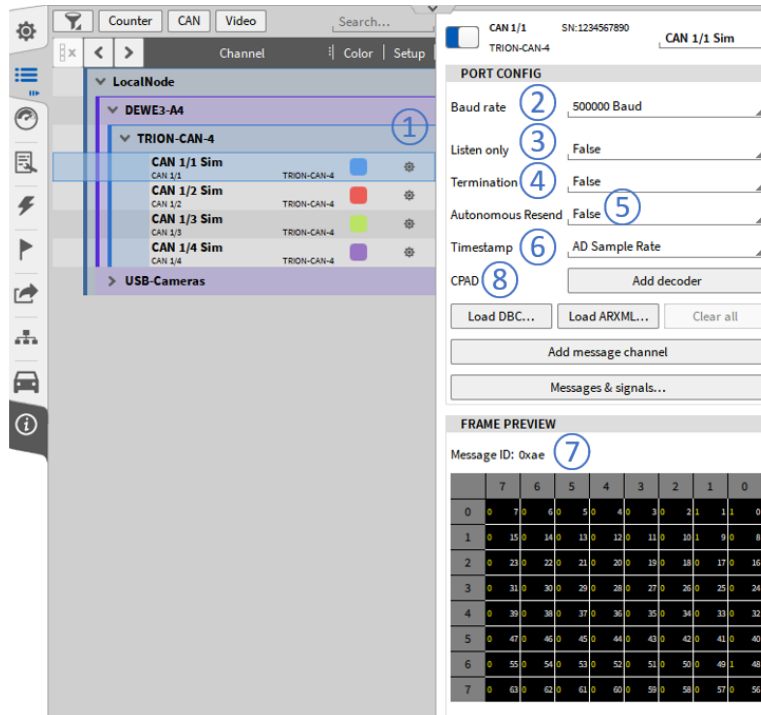

Fig. 7.196: CAN port configuration
To configure the CAN port properly, go to the Channel List and open the CAN port configuration of the dedicated CAN port by pressing the Gear button (see ① in Fig. 7.196).
- Baud rate (see ② in Fig. 7.196):
- Listen only (see ③ in Fig. 7.196):
- Termination (see ④ in Fig. 7.196):
- Autonomous Resend (see ⑤ in Fig. 7.196):
- Timestamp (see ⑥ in Fig. 7.196): Sets the time base on which the CAN signals are aligned.
The frame preview (see ⑦ in Fig. 7.196) will show a preview of the received messages if all settings (especially Baud rate and Termination) are set correctly and data is available on the CAN port.
CPAD (see ⑧ in Fig. 7.196): If a module of the CPAD series is connected to the CAN bus, a CPAD decoder can be added for decoding their messages and signals without the need for a proper dbc-file. For more information, refer to Using XRs / CPADs with OXYGEN.